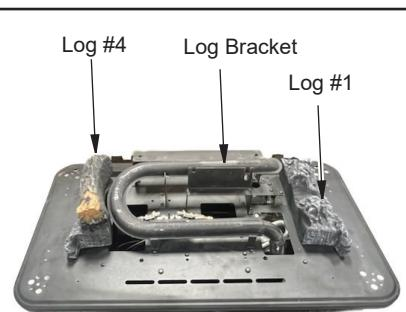
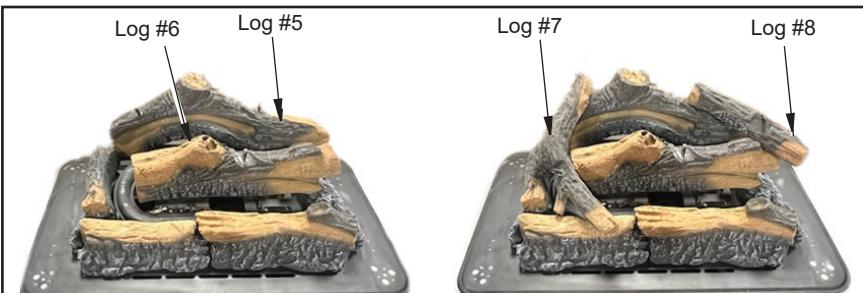

Figure 13 - Log #1 and Log #4
Figure 15 - Logs #5, #6, #7 and #8
2. Place Log #1 and Log #4 onto burner tray as shown in Figure 13. Push them back to contact the back wall of the stove
4. Place pins on Log #5 into holes in rear bracket as shown in Figures 15.
5. Slide screws in Log #6 into slots in the Log Bracket (as shown in Figure 13, page 15), and into the notch in Log #1 (Figure 15).
6. Place Log #7 onto pin in Log #5 and resting the front onto Log #3 (as shown in Figures 13 and 14).